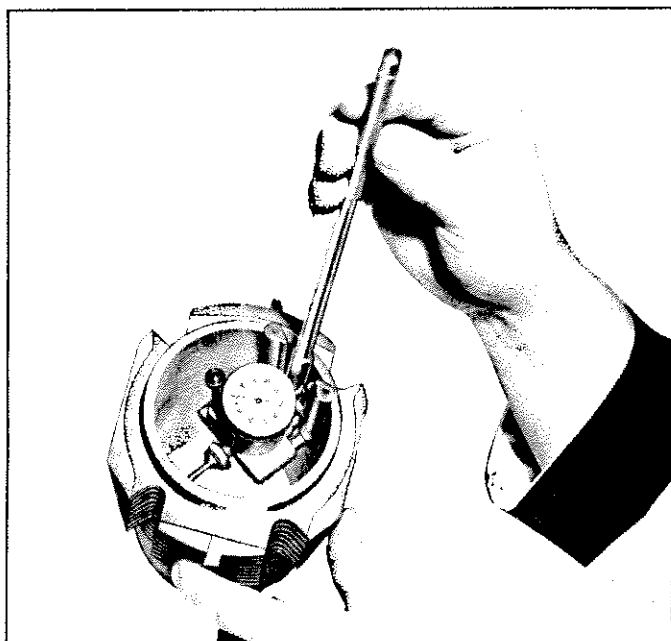

Fig. 100—Measuring Cylinder Bore
4. Measure the cylinder walls for taper, out-of-round or excessive ridge at the top of ring travel. This can be done with Tool J-8087 (fig. 100). Set gauge so that thrust pin must be forced in about 1/4" to enter gauge in cylinder bore. Center gauge in cylinder and turn dial to "O". Carefully work gauge up and down cylinder to determine taper and turn it to different points around cylinder wall to determine the out-of-round condition.